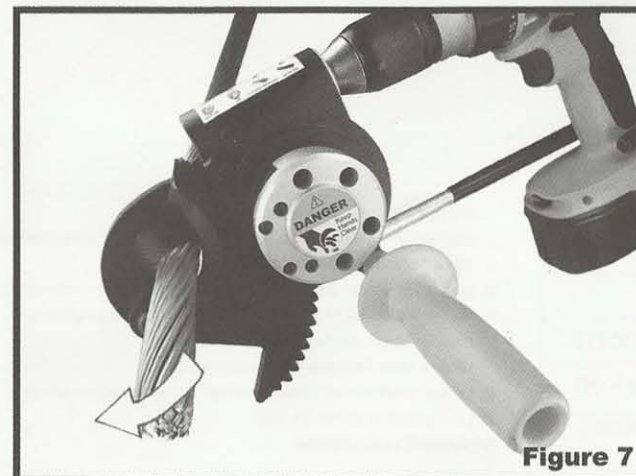

Figure 7
STEP 7: To cut several small cables continuously, cut first cable as described above, then reverse blade until opening is sufficient to feed the next cable through. Continue to alternate between forward and reverse modes until all cables are cut (Figure 7).